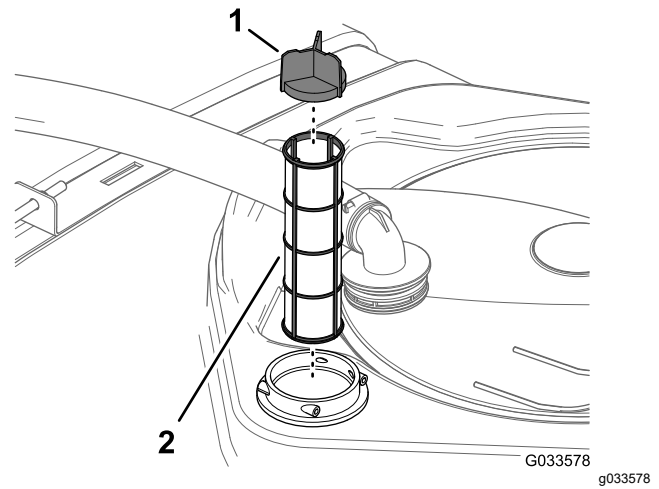

Figure 56
4. Remove the old suction filter from the filter housing in the tank (Figure 56).